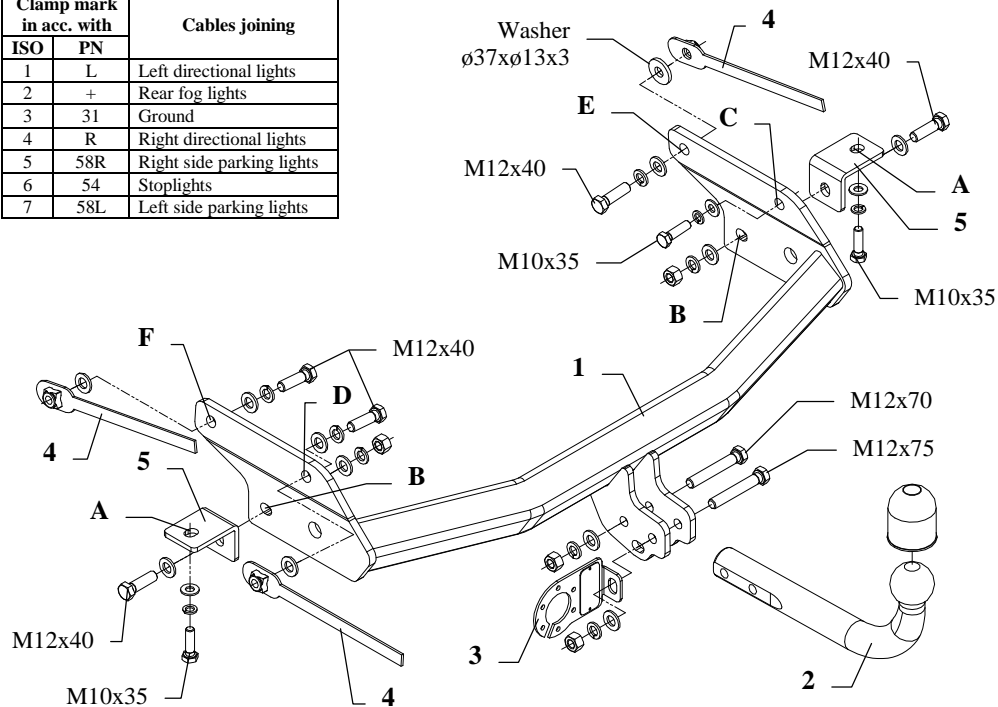
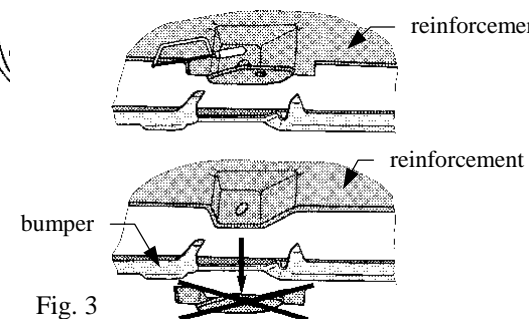

Fig. 1
Fig. 3
**For Chevrolet Trans Sport:** Underneath the bumper, in central section cut out its fragment: width 50mm and depth 40mm. Cut out fragment of bumper reinforcement according to figure 3. Disassemble original towing eye. Put the pin for the rearmost exhaust through hole ø19mm in towing hitch brackets. Mount the towing hitch together with the towing eye on the car.
3. Between installed angle bars put the main bar of the towing hitch (pos. 1) and fix using bolts M12x40mm (pos. 8) through holes (pos. B).
4. On the right side insert bolt M10x35mm in point (pos. C). On the left side insert bolt M12x40mm through hole (pos. D), use nut on the jib (pos. 4). Position the towing hitch horizontally. Drill holes (pos. E and F) in chassis members using bit ø13mm.
5. Fix the main bar of the towing hitch through holes (pos. E and F) using bolts M12x40mm and nuts on the jibs (pos. 4). On the left side remember about big washer ø37xø13x3mm (pos. 10), see figure 1.
6. Fix tow-ball (pos. 2) with socket plate (pos. 3) using bolts M12x75mm (pos. 6) and M12x70mm (pos. 7) from accessories.